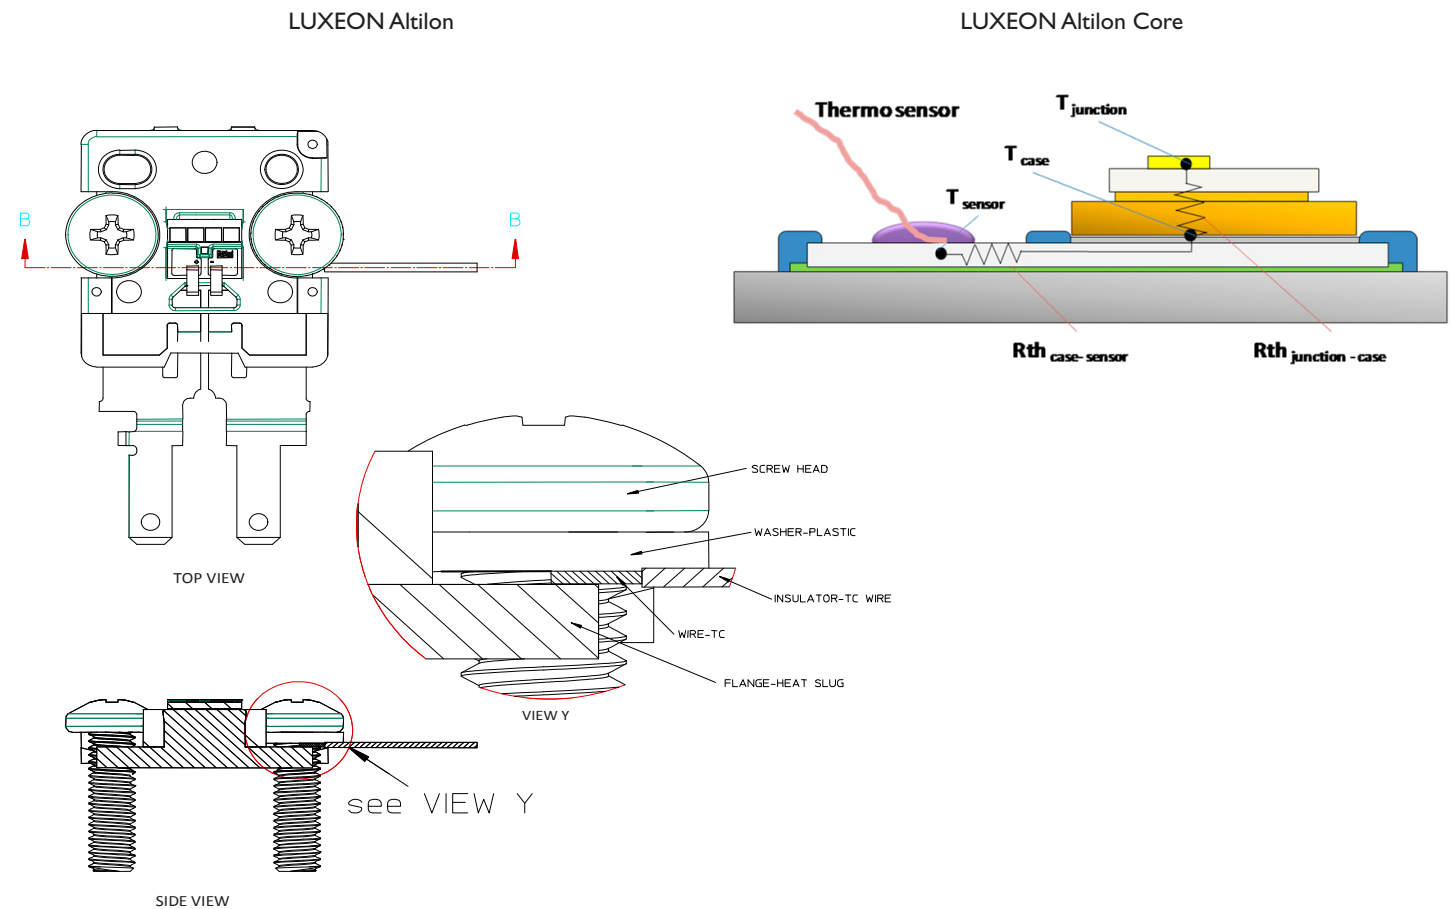

Figure 7. Case temperature measurement.
- 1. As measured at the position indicated in Figure 7.